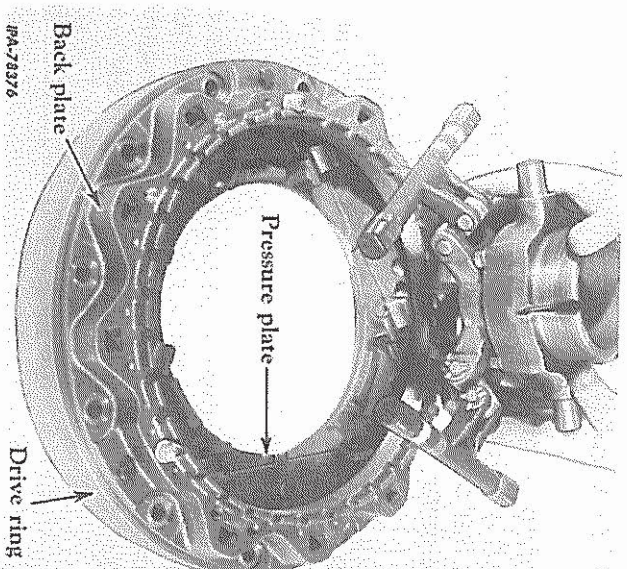

FIG. 17 — Removing the Camshaft and Bearing Carrier Assembly
15. Lift the camshaft and bearing carrier assembly from the pressure plate. Remove the three capscrews and washers securing the back plate to the drive ring and remove the back plate with pressure plate and return springs (Fig. 17).